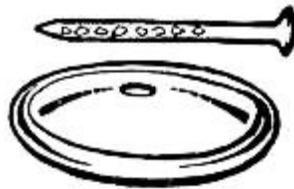

FIG. 185.
**The Roof** is a very important factor in a building of any kind, and care should be taken to make it of water-proof material, for a leaky roof will not only ruin the interior but make it damp and thus unhealthy. Tar-paper will be found a good roofing material, inexpensive, and easily put on. First cover the roof with boards placed about one inch apart. Then cut the tar-paper into lengths equal to the width of the roof. Commencing at the lower edge of the roof tack one strip in place. Lap a second strip two inches over the first, a third two inches over the second, and so on until the entire roof is covered. Figure 185 shows a tin cap and nail made especially for this kind of work. The cap is punched to fit over the nail, and prevents water from running into the hole made by the latter. It will be unnecessary to coat the paper with tar, as there is sufficient in its preparation to keep it water proof a long time—probably longer than the house itself will be allowed to stand.